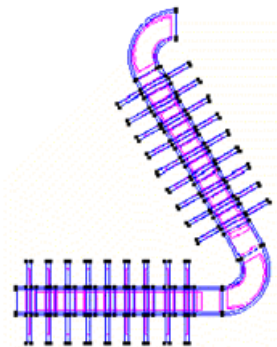

Figure 20. The final position of the translated elbow.
- 4 . Click **Select** and select the surfaces created in point 1. Press **ESC**. The result should be as is shown in Figure 20.